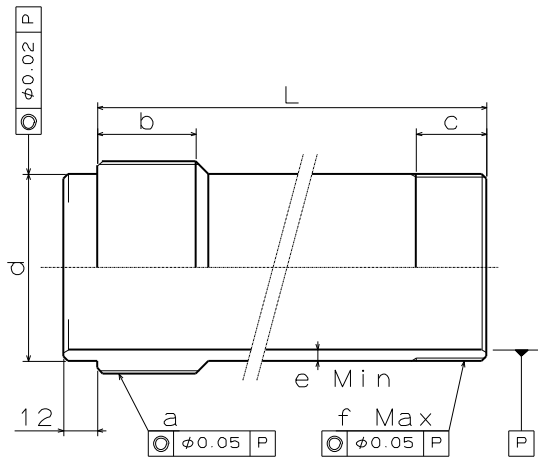

Fig.14
The dimension L in Fig.14 is determined from the distance A between the cylinder adapter and the back plate.
- Keep the dimension e and the dimension f in Fig. 14 for the draw pipe and a material with the tensile strength 380MPa or more must be used.